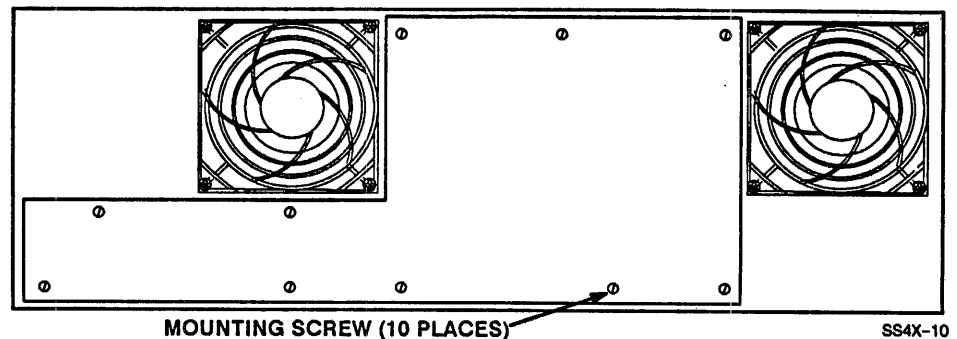

Figure 4-7. Disassembling the Backplane (Interior View of Rear Panel)
4. Remove the ten screws from the backplane PCB (see Figure 4-7) and carefully remove the backplane.